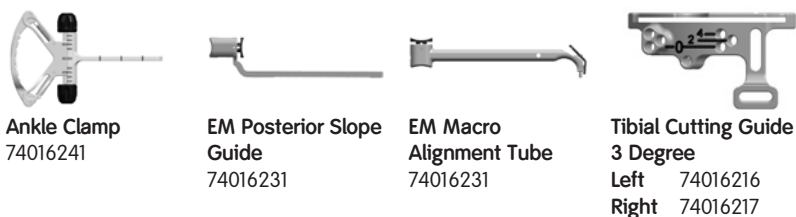

Figure 12
2. Attach the Macro EM Tibial Alignment Tube to the EM Posterior Slope Guide by depressing the inferior button on the Alignment Tube (Figure 12) and sliding to the desired position. Once the button is released, the height will be locked in position.